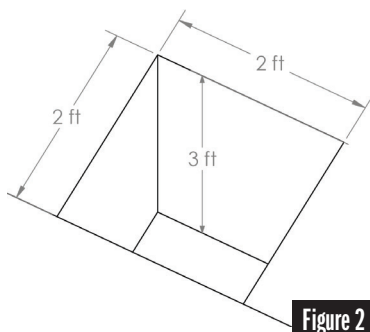

Figure 2
**STEP 3:** Remove the frame and dig a square hole to the appropriate depth and dimensions shown in Figure 2.